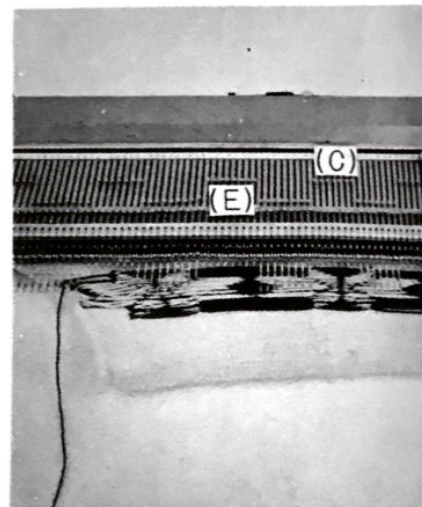

Fig. 23
- (1) Turn both Pattern Control Knobs to 'S'. Move the Shifting Cam Lever to "C" and both Return Cam Levers to Position "2".
- (2) The number of needles required for the contrasting colour should be brought forward into Position (E) (Holding Position) — Fig. 23 The contrast colour wool is then threaded in the Carriage Feeder and the row knitted.
- (3) With the carriage now at the opposite end bring into Holding Position (E) those needles which were previously in Position (C). Change to the main colour and knit 1 row.